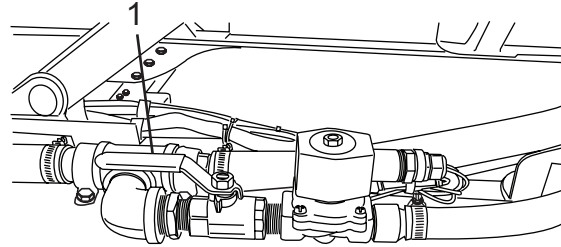

Figure 71
1. Open the water injection ball valve (Figure 71, Item 1).
4. Close the water injection ball valve (Figure 71, Item 1).